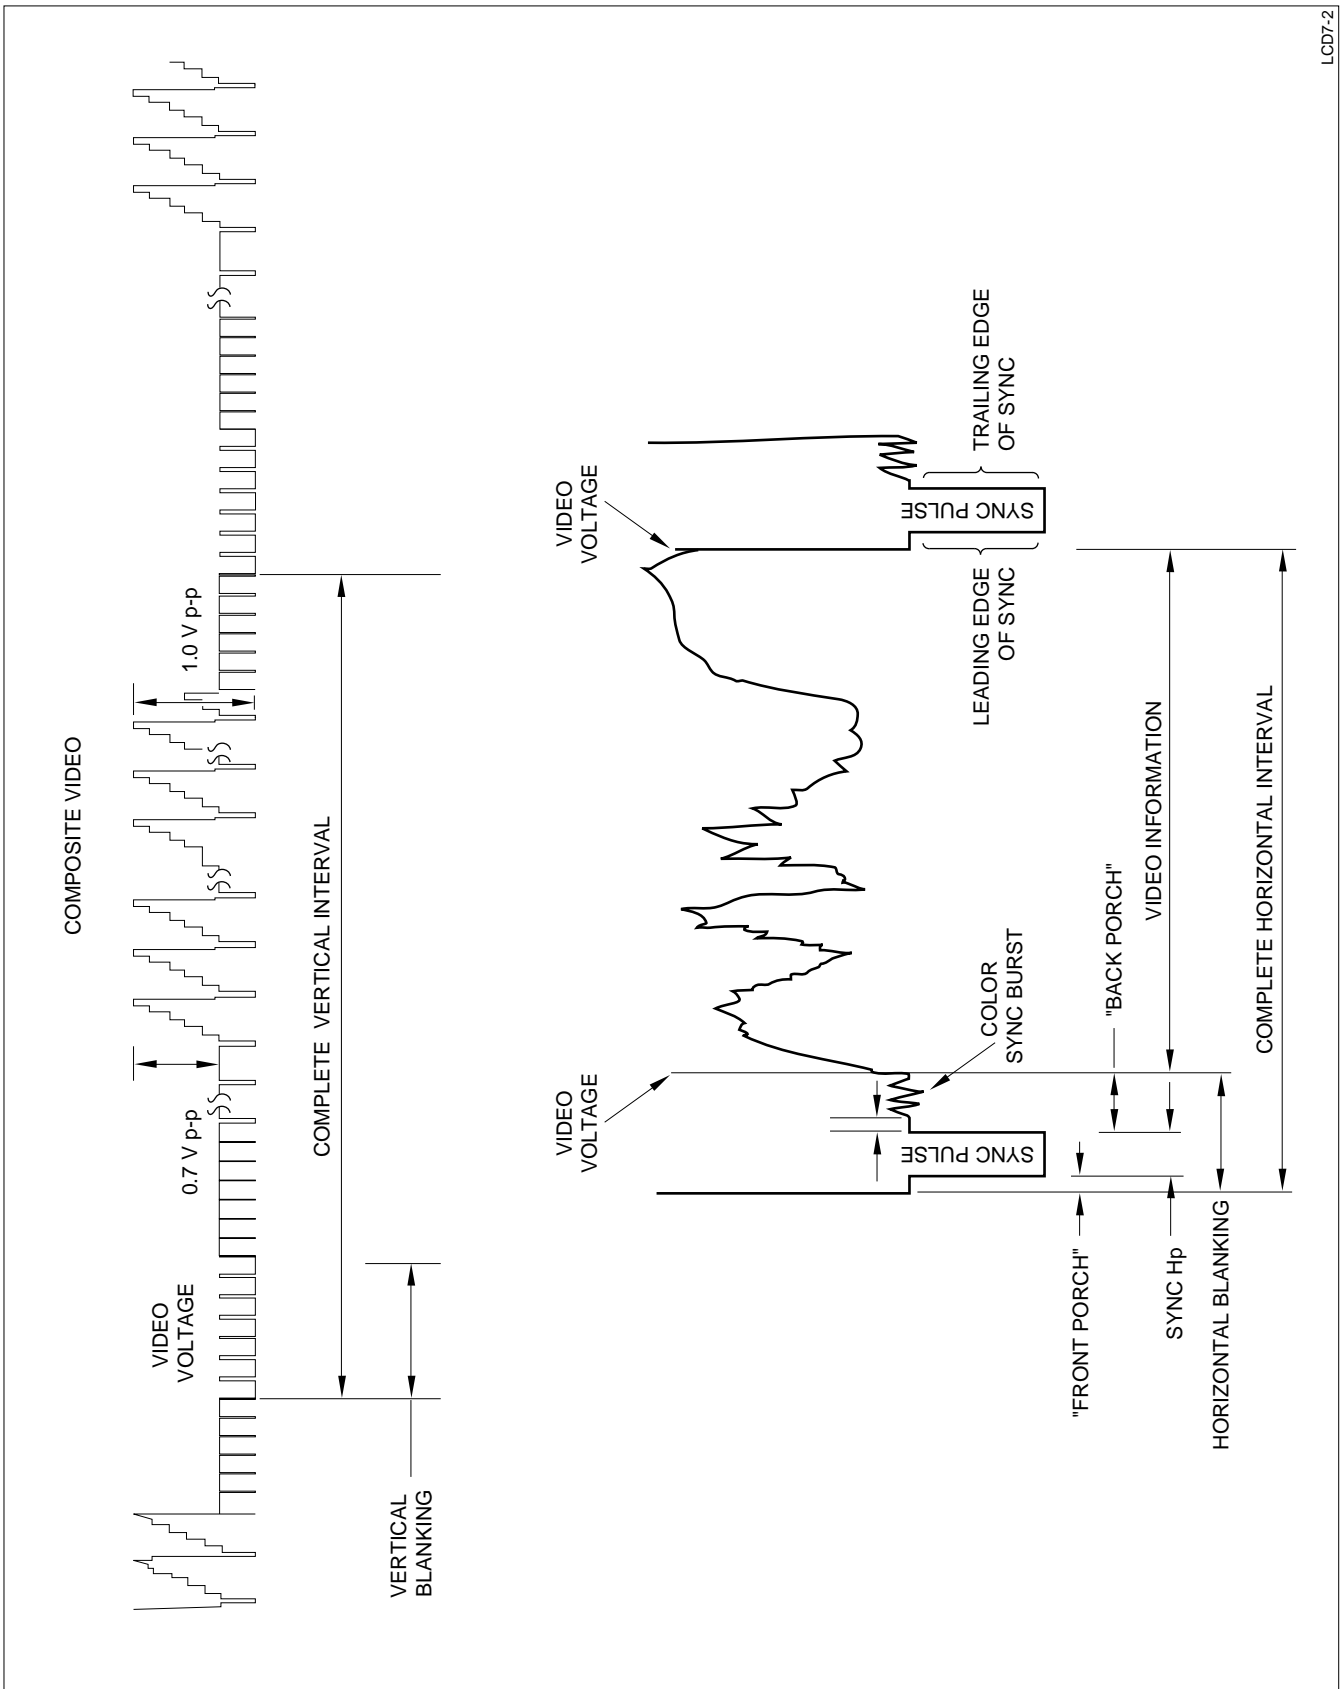

Fig. 2. Composite Video
- Composite Video - Video information is combined with horizontal and vertical sync and color burst information into one signal (Figure 2).